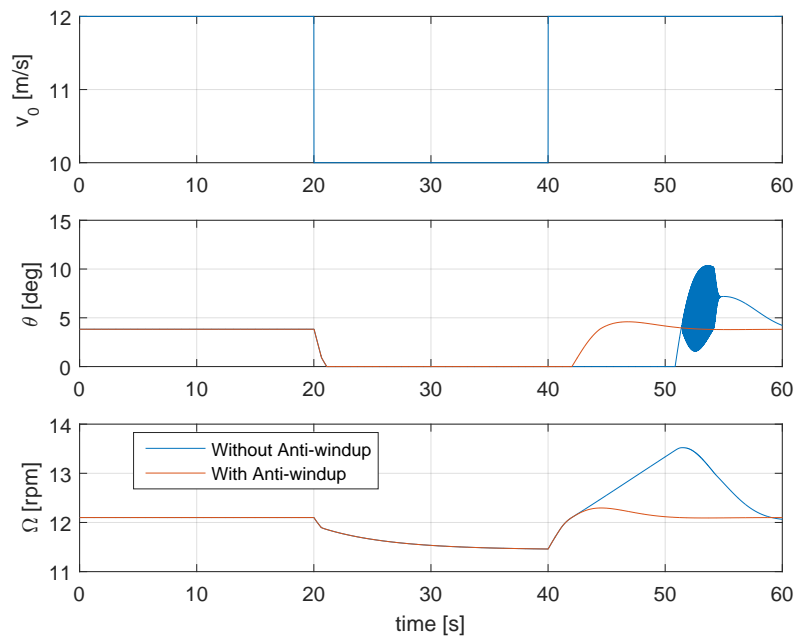

Figure 2: Effect of Anti-Windup.
- e) Please implement an anti-windup and run a simulation with a wind step from 12 m/s to 10 m/s and back to 12 m/s using the script Exercise03_AntiWindupTest.m. Please test the effect with and without the Anti-Windup. The results should be similar to Figure 2.